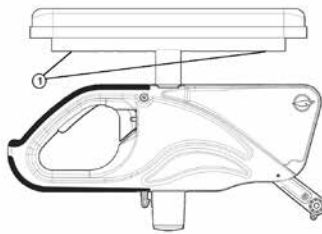

Fig. 20
- Open the clamp (1) to install it around the back cane so that the finger (2) is parallel to the rear wheels.
- Be sure to place the clamp as high as possible without exceeding the clothes guard (3), making sure that it is inserted as far into the finger as possible.
- Remove screws (1) (Fig. 20) located under pad (through the tube).
- Reinstall screws (1) and tighten firmly.